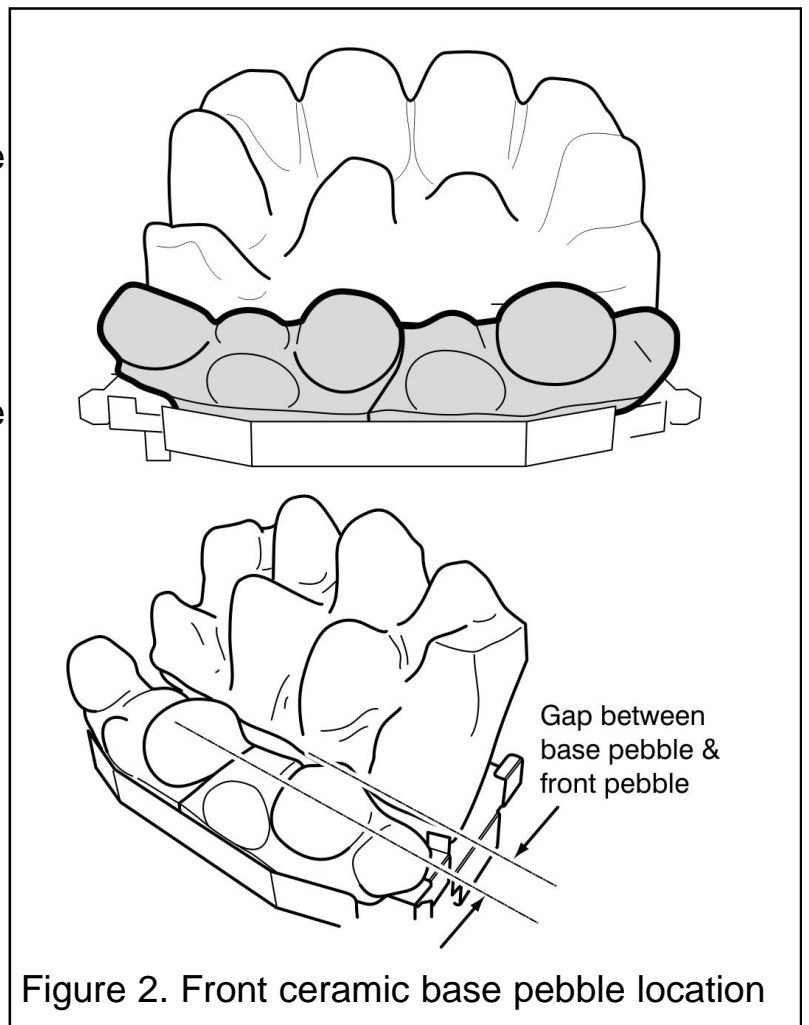

Figure 2. Front ceramic base pebble location
2. Place the right-hand ceramic front pebbles in position in front of the base pebble. The front of the ceramic pebbles should touch the front of the burner module (See figure 2).
3. Place the left hand ceramic front pebbles in position in front of the base pebbles. This should join with the right-hand pebbles. Push the two sides together to minimise the gap. The front of the ceramic pebbles should touch the front of the burner module (See figure 2).
4. There will be a gap between the rear of the front pebbles and the front of the base pebbles (See figure 2).